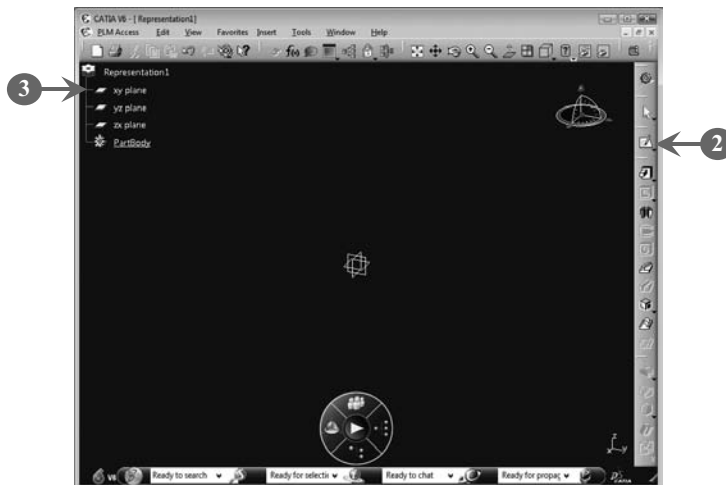

FIGURE 2.1
The Sketcher workbench is used to draw precise sketches and 2D shapes. Before working on designs of the sketches, it is essential to invoke the Sketcher workbench. Before invoking the Sketcher workbench, it is required to start the Part Design workbench (**Figure 2.1**).
1. Open CATIA V6 and start the Part Design workbench (Figure 2.1).
2. Click the **Sketch** (📐) button in the **Sketcher** toolbar on the part design (Figure 2.1).
3. Click on any one of the planes in the specification tree, according to which the Sketcher workbench invoked. In our case, we have *clicked* the **xy-plane**, as shown in Figure 2.1: